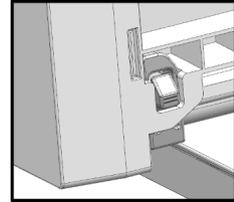

Figure 3
- Push the drawer down until you feel the front section clip onto the rails (see *Figure 3*).